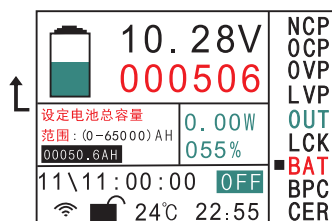

Figure 4-7
7). "**BAT**" Total battery capacity setting, move the cursor to this option, and click **OK** to enter the parameter setting page as shown in Figure 4-7, and set the parameters in the same way as NCP.